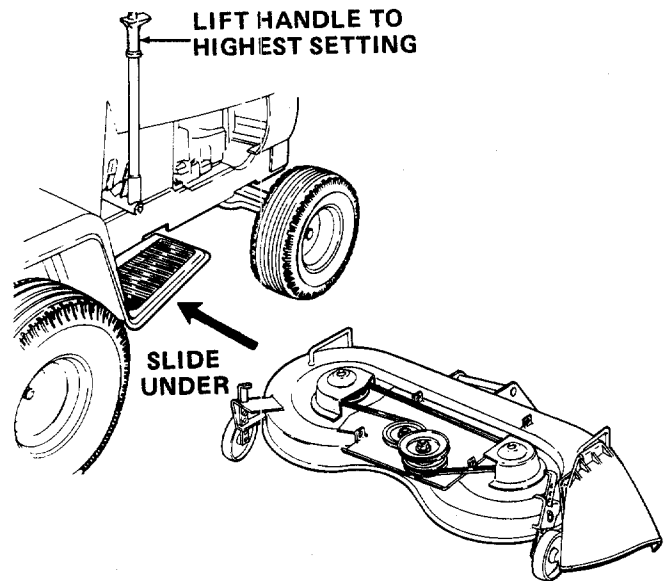

Figure 42
1. Raise the lift handle to its highest setting. Refer to Figure 42 and place the deck on the right side of the tractor, with the front of the deck facing toward the front of the tractor. Slide the deck under the tractor until it is aligned with the tractor as illustrated in Figure 43.